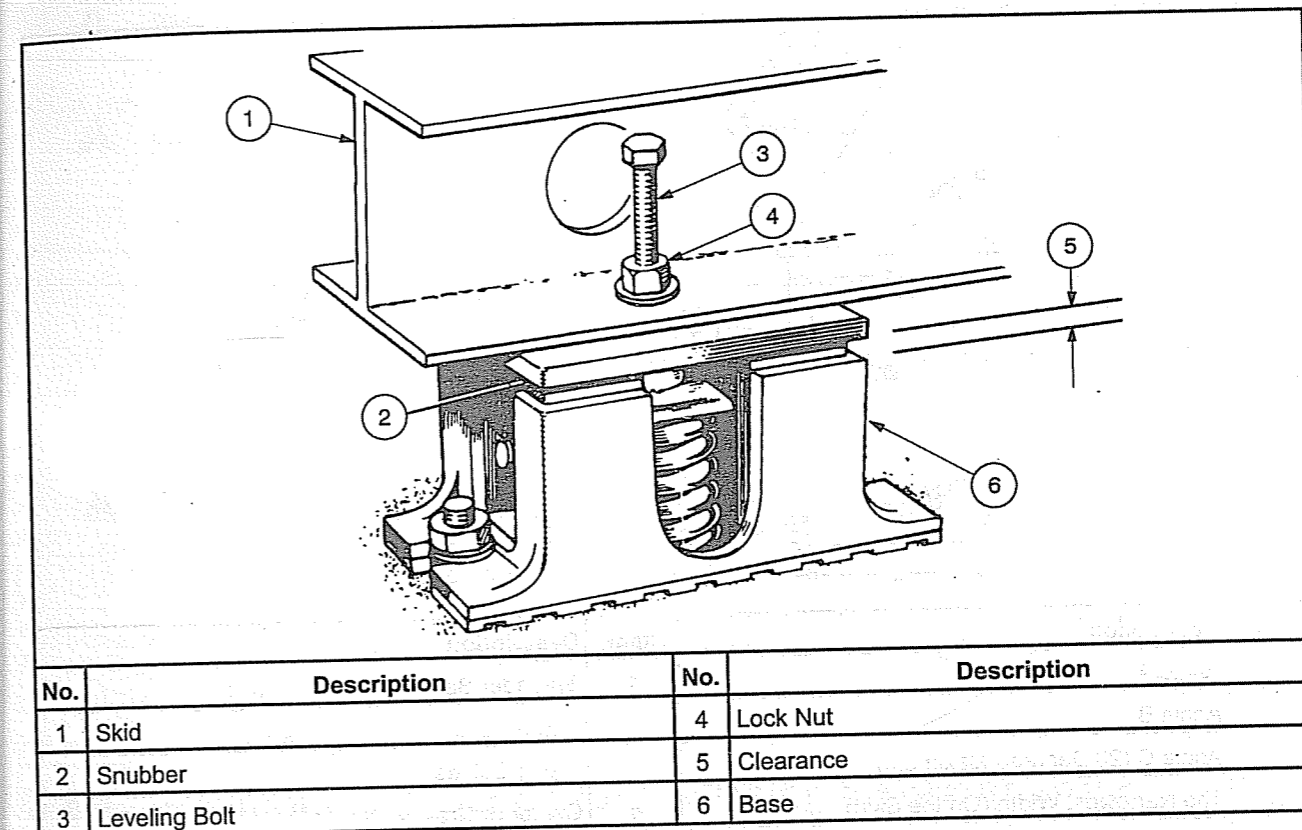

FIGURE 4. VIBRATION ISOLATOR INSTALLATION
1. Place the vibration isolators (see **Figure 4 on page 21**) on the generator set support structure. The isolators should be shimmed or grouted to make sure that all of the isolator bases are within 0.25 inch (6 mm) elevation of each other. The surface that the isolator bases rest on must also be flat and level.